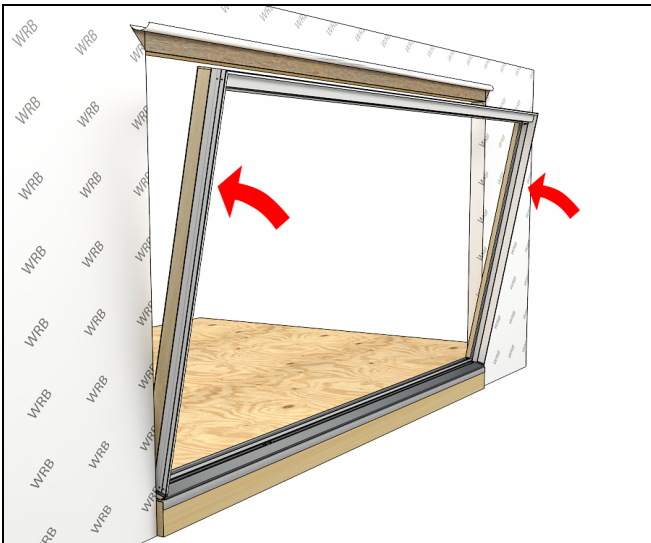

Figure 11
2. If applicable, attach the head jamb nailing fin, then install centered frame into rough opening. See Figure 11.